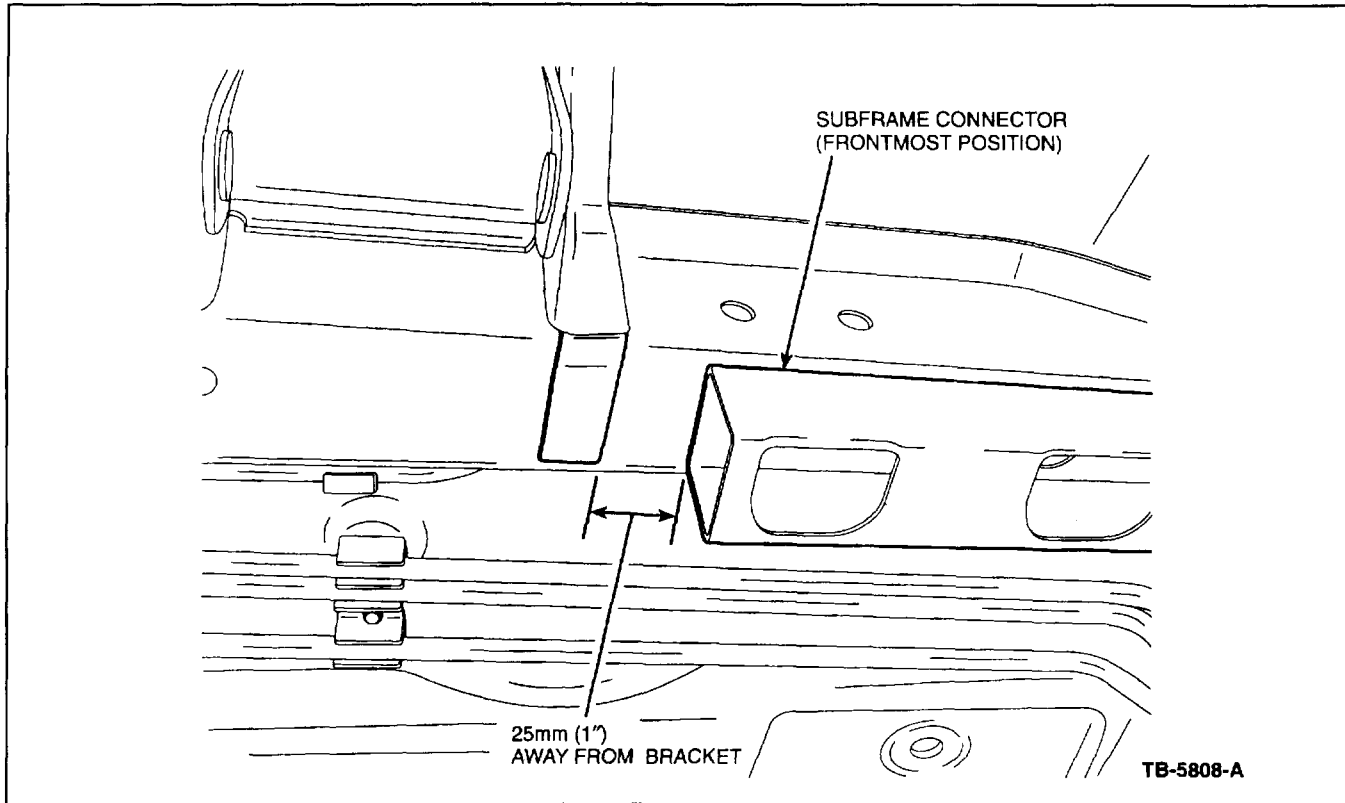

Figure 1 - Article 00-4-2
8. If this vehicle is a model year 1998 with 16 " tires and automatic transmission, set the tire pressure to 207 kPa (30 psi) and obtain a new Vehicle Tire Pressure label by contacting Renkim Corporation at (800) 207-2444 or (734) 374-8684, 7:30AM-7:30PM Eastern Time. Ask for Mustang label, part number F8ZC-1532-EA. All other vehicle applications, proceed with remaining Steps.
11. Install a set of Underbody Rails (XR3Z-76101W09-AA - Left and XR3Z-76101W08-AA - Right). Refer to Figure 1 to determine where to place the rails to the underbody. The underbody rails will need to be welded to the underbody of the vehicle, referring to the following: